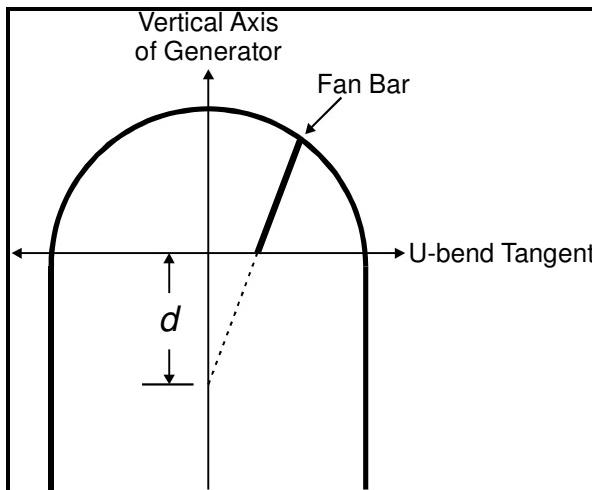

Figure 27. Understanding the Fan Bar Intercept Value
- **FB INT**: Abbreviation for 'Fan Bar Intercept'. Fan bars, like AVBs, are UBEND support structures specifically used in Westinghouse Model CRF-80 steam generators. For each fan bar landmark, enter the distance (d) from the U-bend tangent to the point where the fan bar would intercept the vertical axis of the steam generator for the *first row* where each fan bar is present. This is necessary because the UBEND tangent is not at the same elevation from row to row for this model. The **DELTA** value, discussed later, allows the software to automatically calculate remaining fan bar locations. Review Figure 27 for a better understanding of the value required.